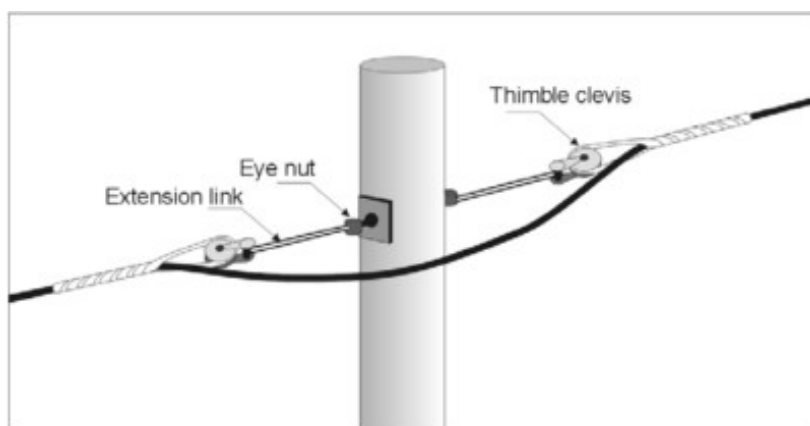

Figure 8. False dead-end
- When ordering dead-ends, it is important to ensure that all other necessary pole hardware is ordered. (see Figure 8) These items include: